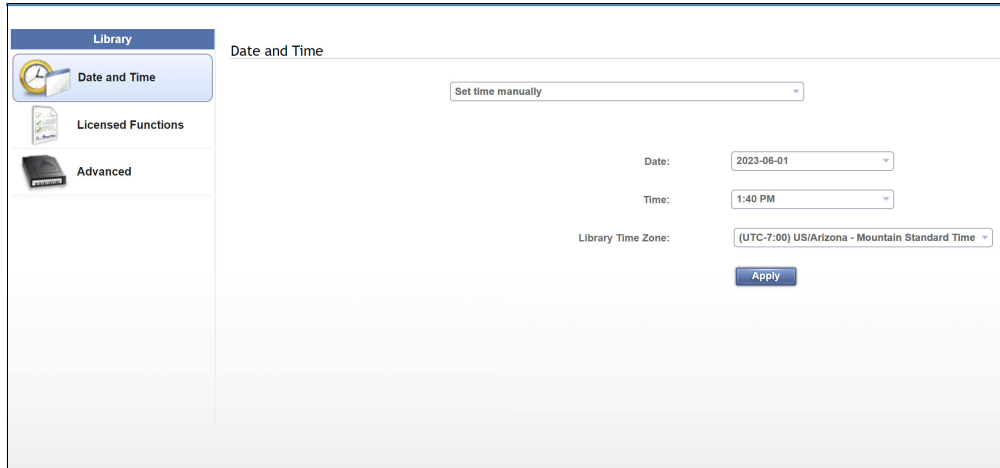

Figure 5-2 Set Date and Time
1. Set the local date and time. Select **Settings > Library > Date and time** (Figure 5-2).